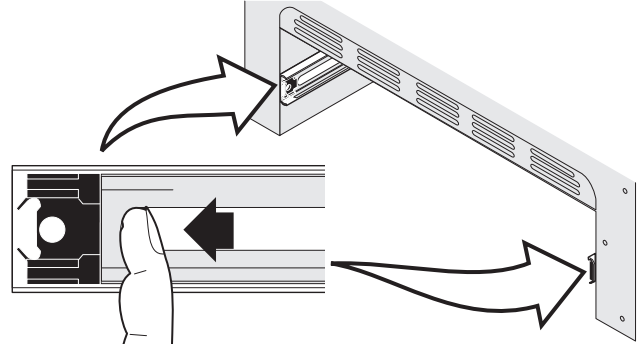

Figure 34: Bearing glide placement
1. Pull the bearing glides to the front of the outer compartment glide channels until they snap into place (See Figure 34).